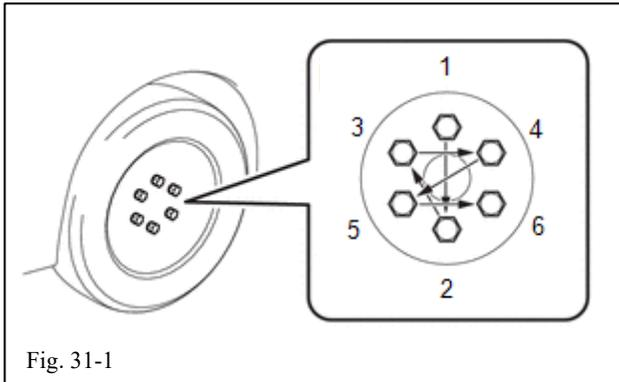

Fig. 31-1
- (a) Align matchmarks on lower control arm x frame adjustment cam bolts (Fig. 31-1).